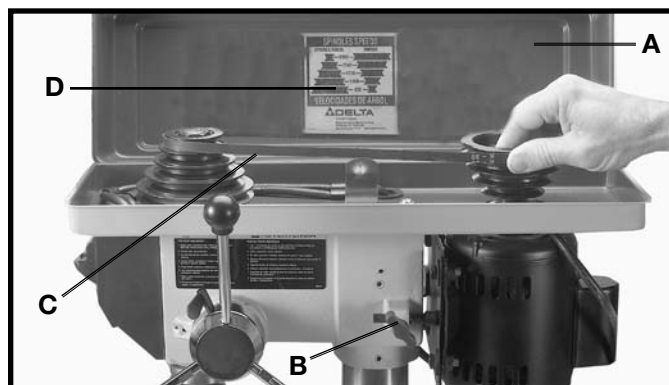

Fig. 19
16. Lift up the motor pulley cover (A) Fig. 19.
17. Loosen the tension lock knob (B) Fig. 19, and pivot the motor toward the front of the drill press as shown.
18. While holding the motor toward the front of the drill press head, position the belt (C) on the desired steps of the motor and spindle pulleys, as shown in Fig. 19. A belt positioning chart (D) is provided on the inside top cover of the drill press for your convenience.
19. After the belt is positioned on the desired steps of the motor and spindle pulleys, pivot motor away from the drill press head until the belt is properly tensioned and tighten tension lock knob (B) Fig. 19. The belt should be just tight enough to prevent slipping. Excessive tension will reduce the life of the belt, pulleys and bearings. Correct tension is obtained when the belt (C) can be flexed about one inch out of the line midway between the pulleys using light finger pressure.